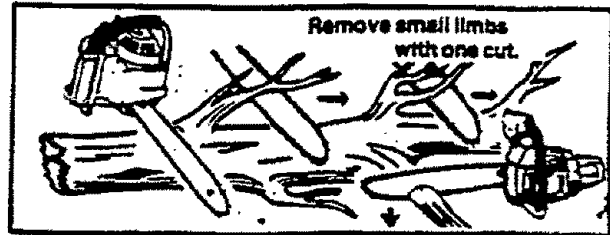

Figure 26
- Start at the base of the felled tree and work toward the top, cutting branches and limbs. Remove small limbs with one cut. Figure 26.